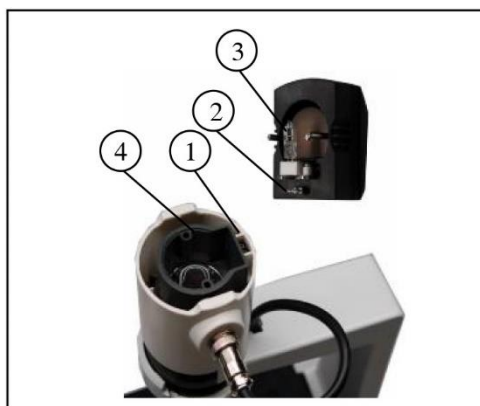

Figure 5
2.2.3. Installing the lamp house (figure 5)